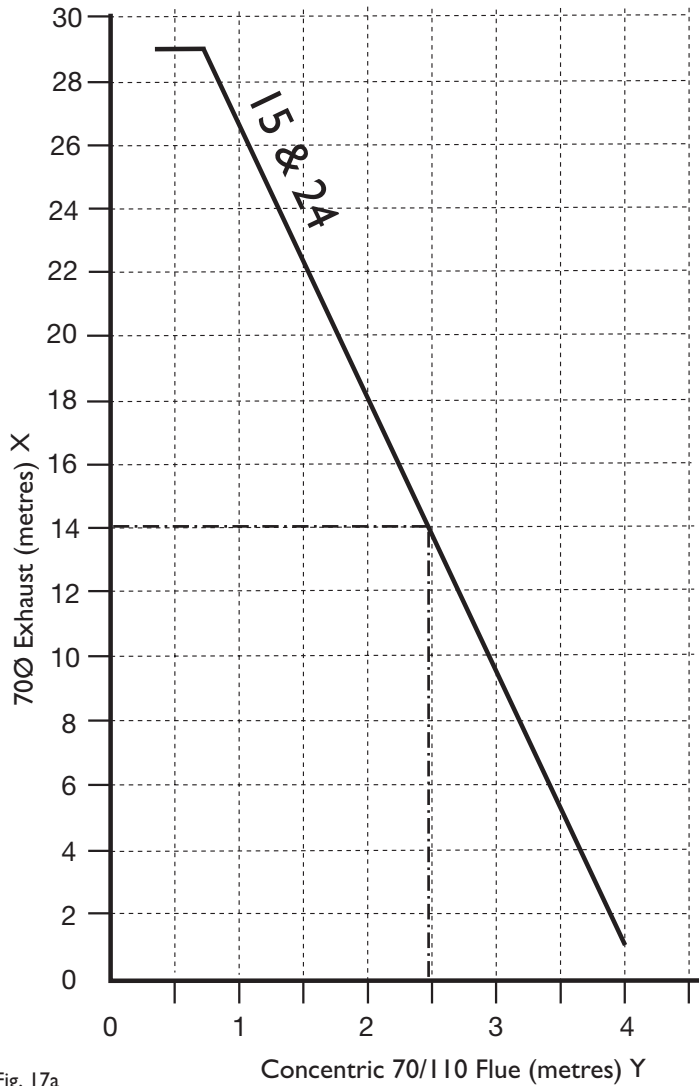

Fig. 17a
3. Full fitting details are supplied with the kit. The table and illustration opposite show the maximum permissible lengths of each part of the flue (Fig 17a).